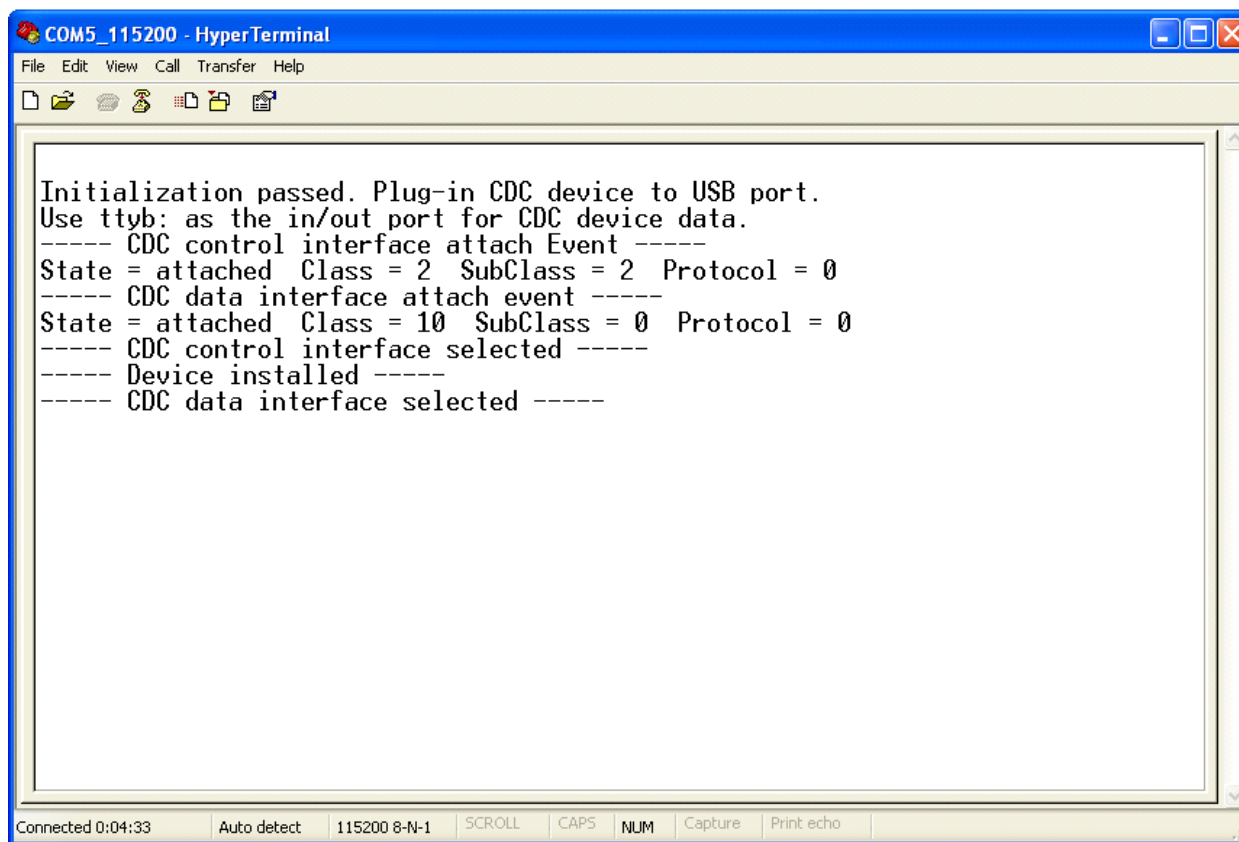

Figure C-3. Information of the device
4. Plug-in CDC device to CDC Host (Board), the HyperTerminal shows a message as in Figure C-3: